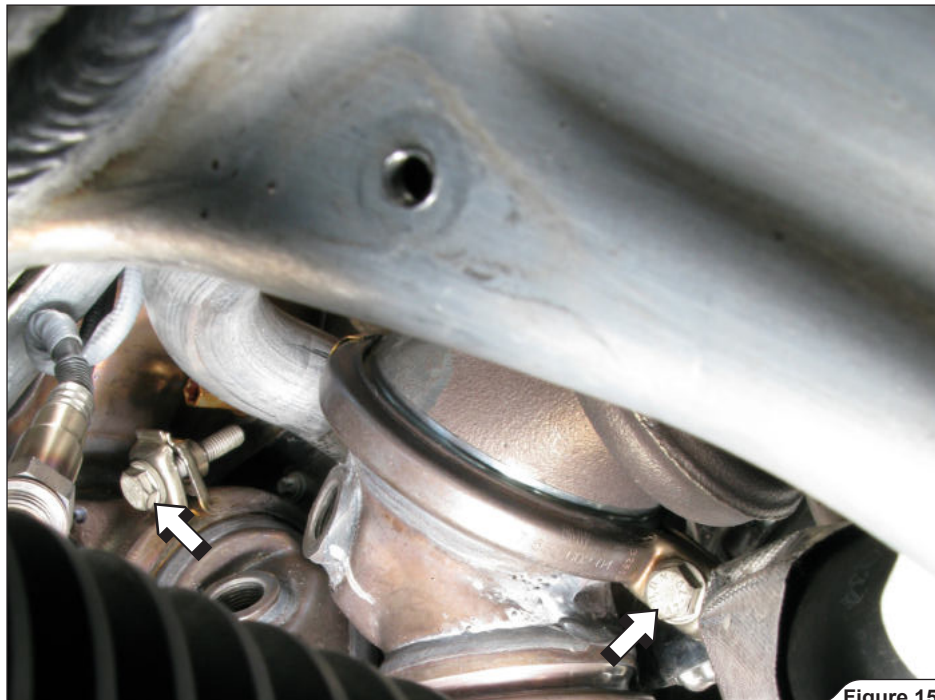

Figure 15
14. For optional Down Pipes: unscrew and remove the two marked spherical clamps (Figure 15).